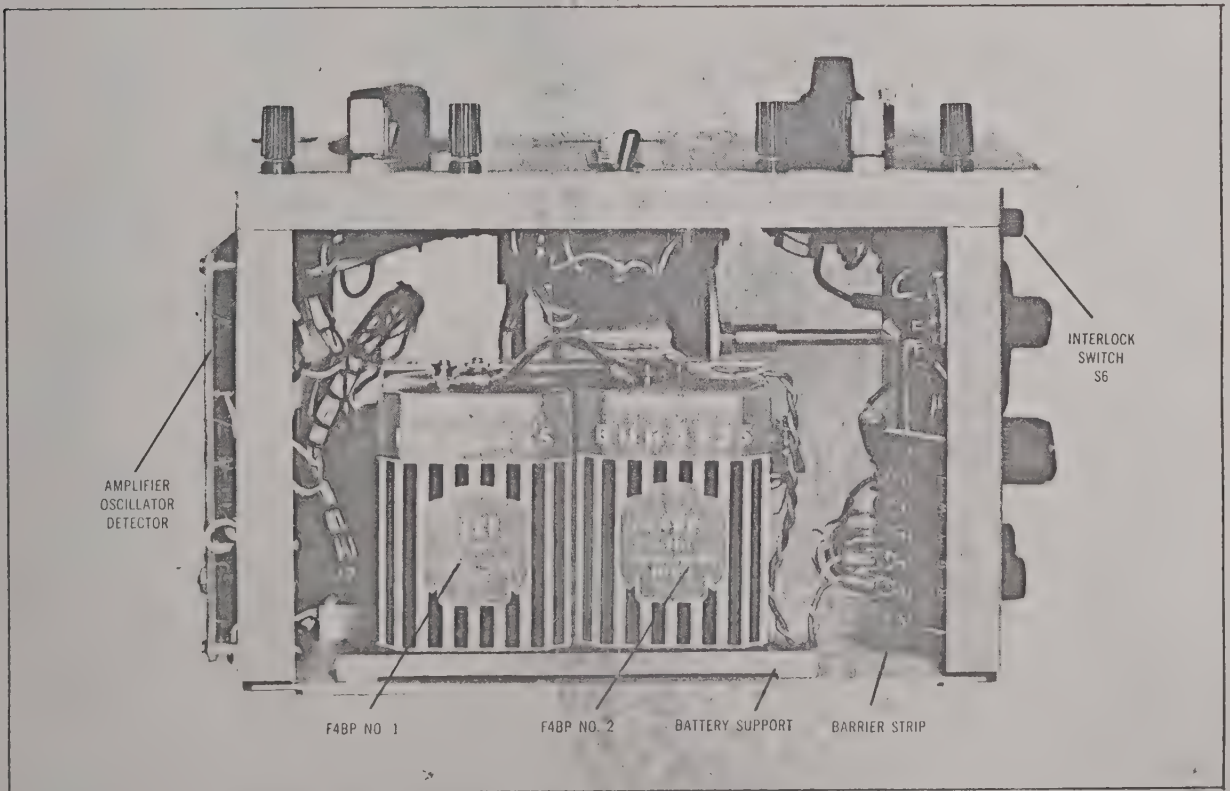

Figure 6a. Location & Mounting of Battery Power Pack
6.2 INSTALLING BATTERY POWER PACK. Remove the Indicator from the case by removing the two screws on the bottom side. Lift the unit out of the case and install the batteries as follows (see figure 6a).